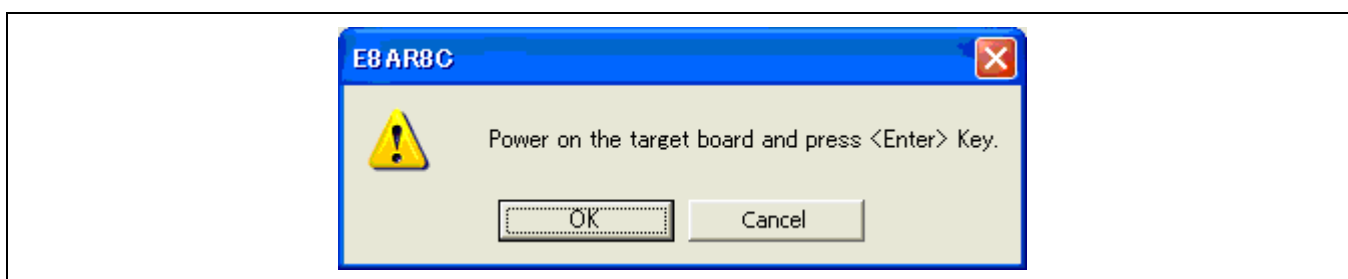

Figure 3.16 Dialog Box of the Power-on Request Message
10. When [Power Target from Emulator. (MAX 300mA)] is not checked, the dialog box shown in Figure 3.16 will be displayed.